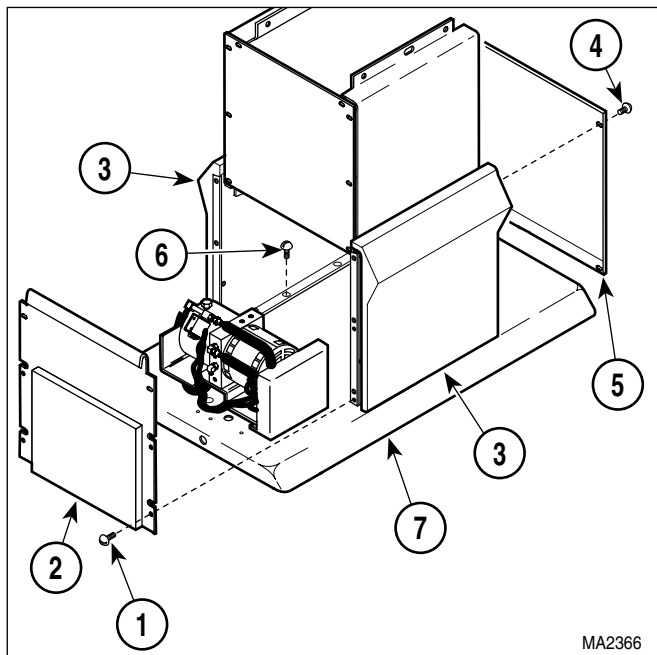
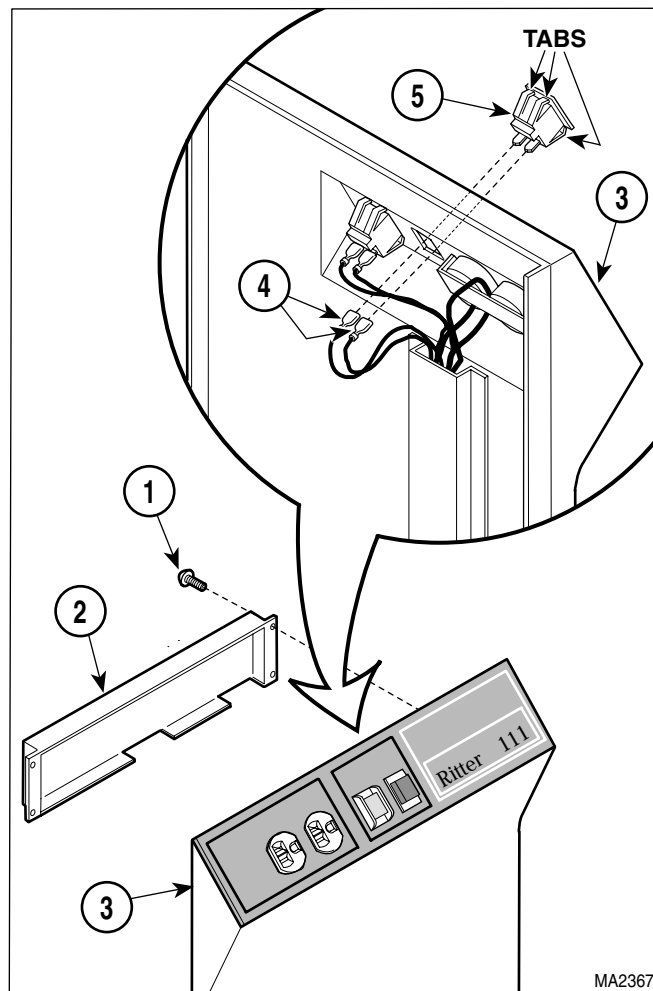

Figure 4-24. Shrouds Removal / Installation
Figure 4-25. AUTO RETURN "RETURN" Button or "STOP" Button Removal / Installation
- (1) Remove motor cover assembly (Refer to para 4.2).
- (2) Remove four screws (1, Figure 4-24) and back outer shroud (2) from left and right hand outer shrouds (3).
- (3) Remove four screws (4) and front outer shroud (5) from left and right hand outer shrouds (3).
- (5) Remove four screws (1, Figure 4-25) and backplate (2) from outer shroud (3).
- (6) Disconnect two wires (4) from "RETURN" button or "STOP" button (5).
- (7) Press on four tabs of "RETURN" button or "STOP" button (5), while simultaneously pulling the button out of the outer shroud (3).
- (1) Push "RETURN" button or "STOP" button (5, Figure 4-25) into outer shroud (3) until it "pops" into place.
- (2) Connect two wires (4) to "RETURN" button or "STOP" button (5).
- (3) Install backplate (2) on outer shroud (3) and secure with four screws (1).
- (4) Install outer shroud (3, Figure 4-24) on base weldment (7) and secure with three screws (6).
- (5) Install front outer shroud (5) on left and right hand outer shrouds (3) and secure with four screws (4).